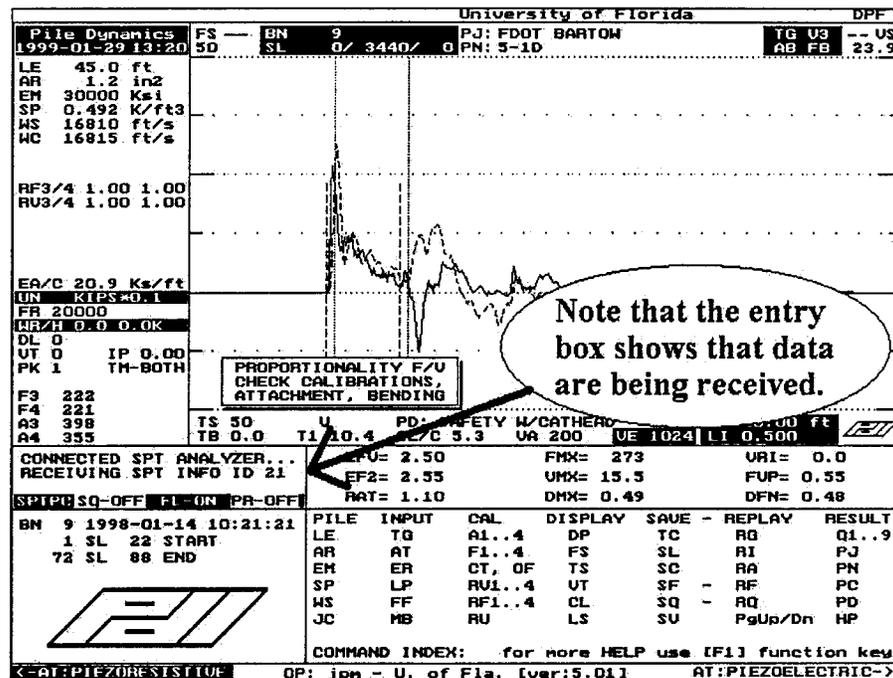
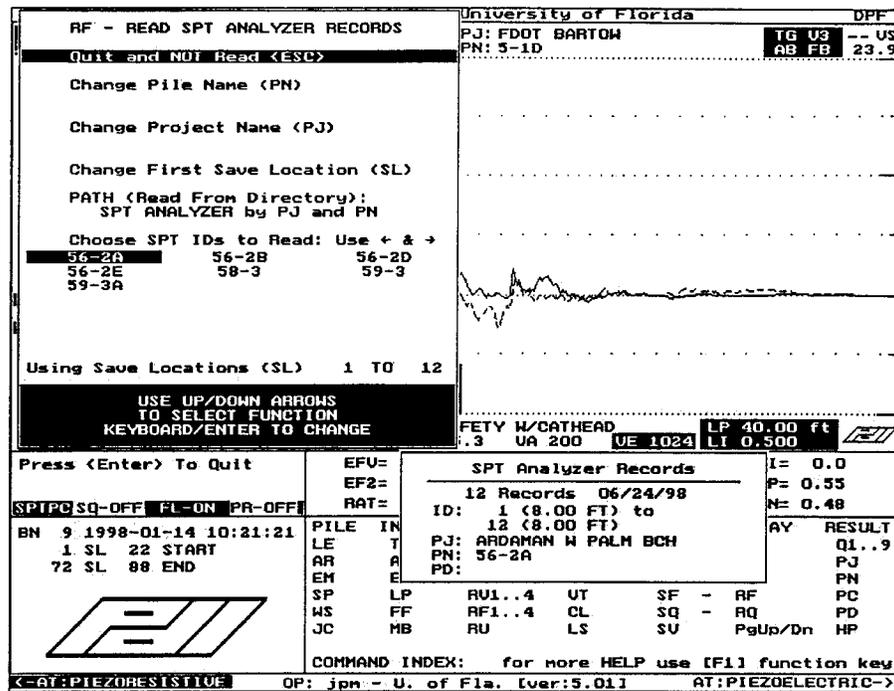
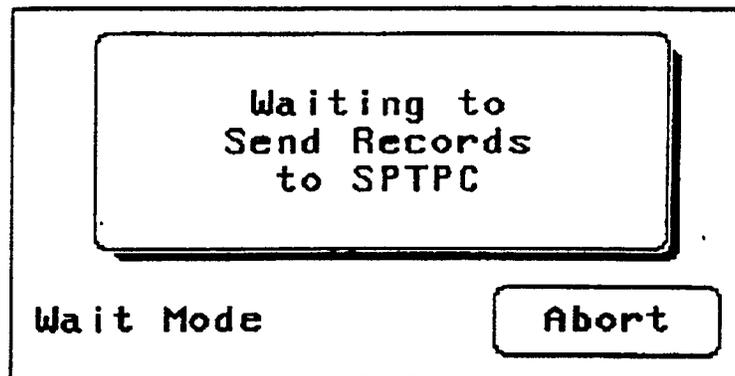

Figure 3-18. Receiving SPT Information.
Figure 3-19. Read File Specification Screen.
Figure 3-20. Analyzer Waiting to Send Records.
37. Instruct the PC to read the Analyzer files. To do this, start the SPT-PC read file command by typing RF and pressing the enter key. Once this is done, the SPT-PC program begins RECEIVING SPT INFO for each hammer blow as indicated in the entry box and shown in Figure 3-18. After the program has read the basic information, the screen will appear as shown in Figure 3-19 where the files to download and the download location may be specified. The Analyzer screen will appear as shown in Figure 3-20.
38. Use the keyboard's left and right arrow keys to select the SPT ID to read. Figure 3-19 shows there are seven sets of data that are on the Analyzer and may be read. ID 56-2A is currently selected (highlighted). Note that the details on the selected data set are shown in the box near the lower right. This box shows the number of records, date, hammer blow ID numbers, PJ, PN and PD. Once the desired SPT ID (or file) has been selected (highlighted), then proceed.
39. Confirm or modify the specified "Using Save Locations (SL)". The locations to which the blow will be saved are shown. There are 3440 save locations in the SPT-PC program and the contents of these can be viewed as previously discussed using the TC (Table of Contents) command. To specify a save location to which it is okay to write the